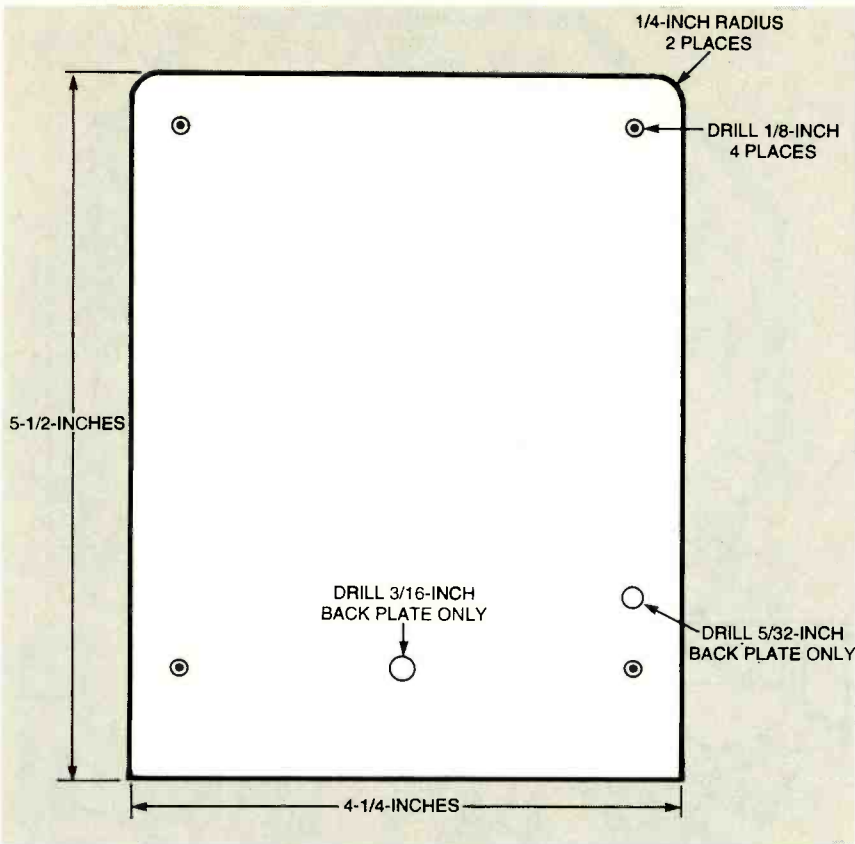

Fig. 3. The front and back of the Scrolling Clock are cut to the same size; the front is made from see-through red plastic.
**The Display Case.** While the Scrolling Clock can be mounted in any suitable case, it is a project that calls for a stylish housing. A black plastic back panel and a translucent red front bezel are cut to the same size; the dimensions of the author's prototype are shown in Fig. 3. The four holes are aligned to the four mounting holes at the corners of the PC board; get location measurements from your board. Note that two additional holes are needed. One is centered as shown, the other is for S1 to project through